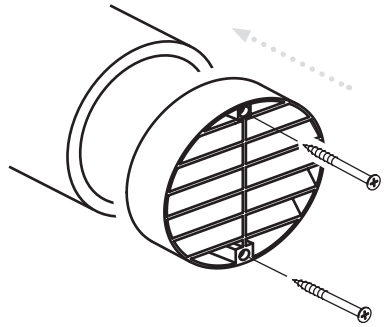

Figure 6.5 – Placement of the grid
8. Install the air intake grid on the pipe and fasten it with 4 × 90 self-tapping screws (Fig. 6.5). The grid can be additionally fixed with odorless glue resistant to temperature changes.